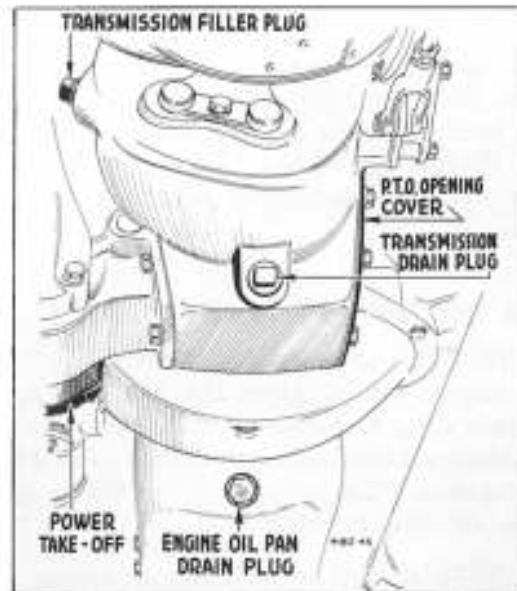

Fig. 5—Filler and Drain Plugs
**ENGINE OIL**—Change regularly every 2000 miles. It is always advisable to drain the engine oil while the engine is at normal operating temperature. The oil will drain more completely when hot and will, therefore carry more of the foreign material and dirt away. Get under the vehicle and remove the drain plug (Fig. 5). Use the adjustable wrench to remove the plug. Allow the oil to drain thoroughly and replace the plug, making sure
Remove drain and filler plugs and allow lubricant to drain thoroughly. Replace drain plug and fill to level of the filler plug. Replace filler plug. (Fig. 5).